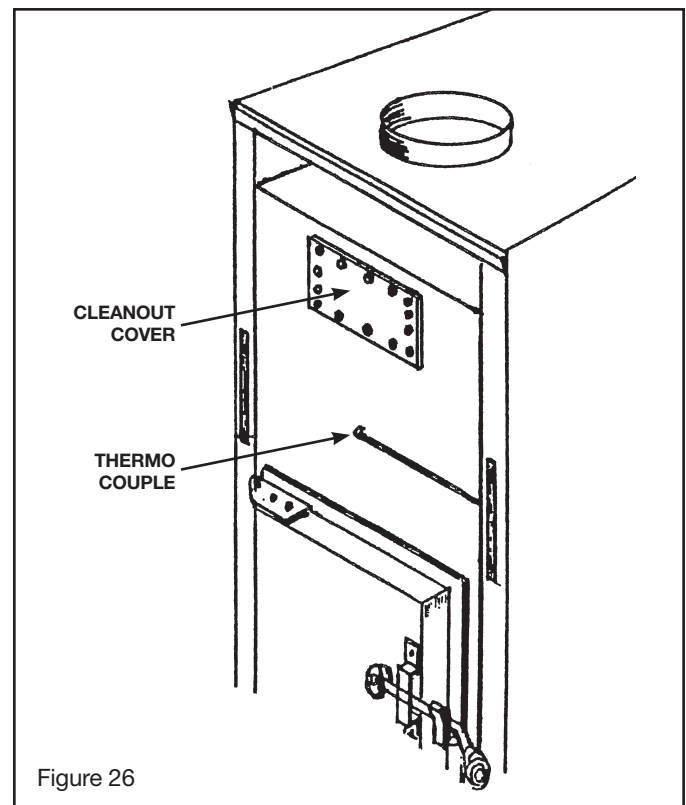

Figure 26
10. Clean out your heat exchanger once or twice each year to increase the heat transfer efficiency. See Figure 26.